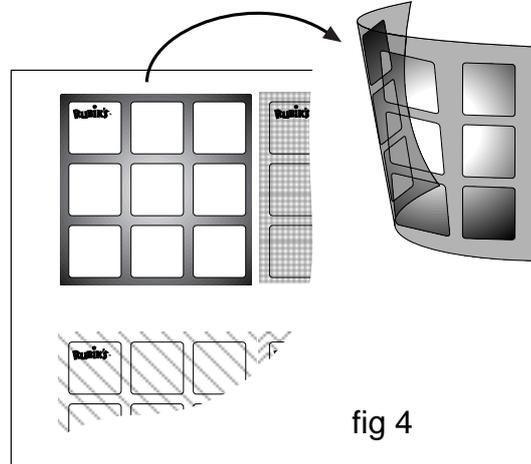

fig 4
5. With the laminates stuck onto the labels and the carrier film still attached peel back the carrier film. Again try not to touch the adhesive side of the labels to ensure a good bond and no finger prints. The printed labels will peel off with the carrier film and are stuck to the laminates. fig 4